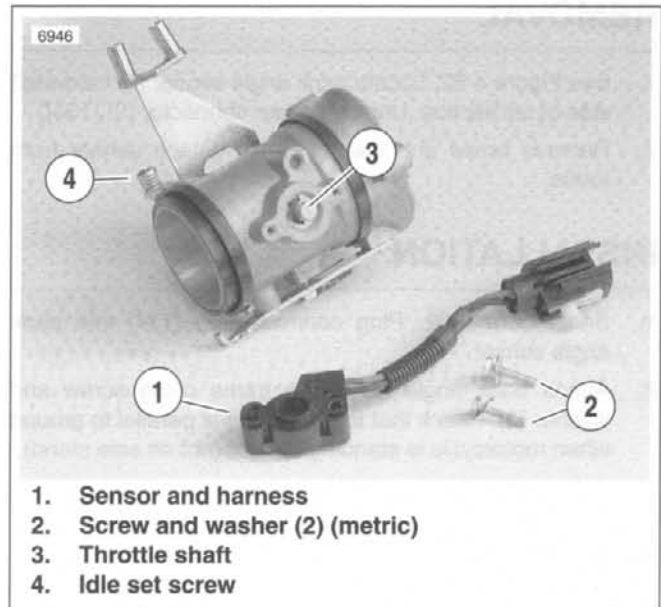

Figure 4-83. Throttle Position Sensor
2. See Figure 4-83. Remove two screws and washers (2) (metric) to detach TP sensor.
1. See Figure 4-83. Attach TP sensor with two screws and washers (2) (metric).